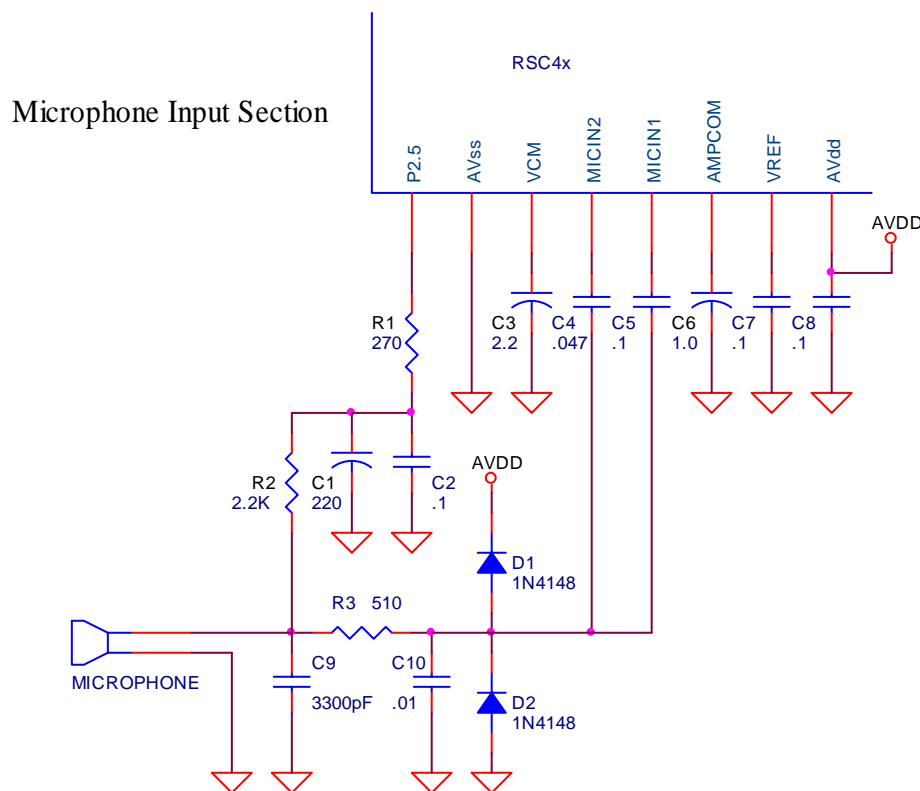

Figure 1
2. Microphone – Virtually all RSC-4x applications have a microphone of some kind, usually an external electret microphone. An electret microphone acts as a current source, but also requires about 100 microamps to operate. If a design does not use Idle with Audio Wakeup mode, the external microphone power should be turned off. Refer to figure 1 for a sample schematic on how an application that uses some combination of Sleep and Idle modes might look. In this circuit, P2.5 is used to control the microphone power. During normal operation or Idle with Audio Wakeup mode, P2.5 is configured as a high output, thus providing power to the microphone. During Sleep mode or Idle without Audio Wakeup modes, P2.5 is configured as a low output, thus turning off the microphone and saving battery life.
Batteries drop in voltage as they are used. For example, while AA batteries are nominally rated at 1.5V, a brand new battery will usually start out its life at about 1.65V, then drop to 1.5V as it is used. As it is further used, its voltage will continue to drop until it is completely depleted, at which point the measured voltage will be close to 0V. A representative battery depletion chart is shown in Figure 1.